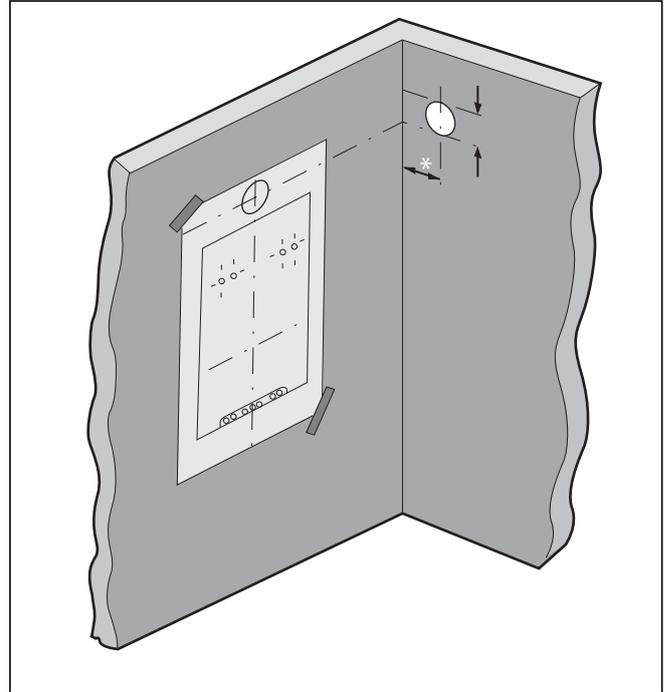

Fig. 2.6 Installation template
- Identify the correct measurement as shown in fig. 2.6, carefully measure the distance from the bottom centre of the boiler hanging bracket (centreline of the two lower hanging bracket fixing holes). This gives the position of the centreline of the 127 mm flue elbow and adaptor when installed.